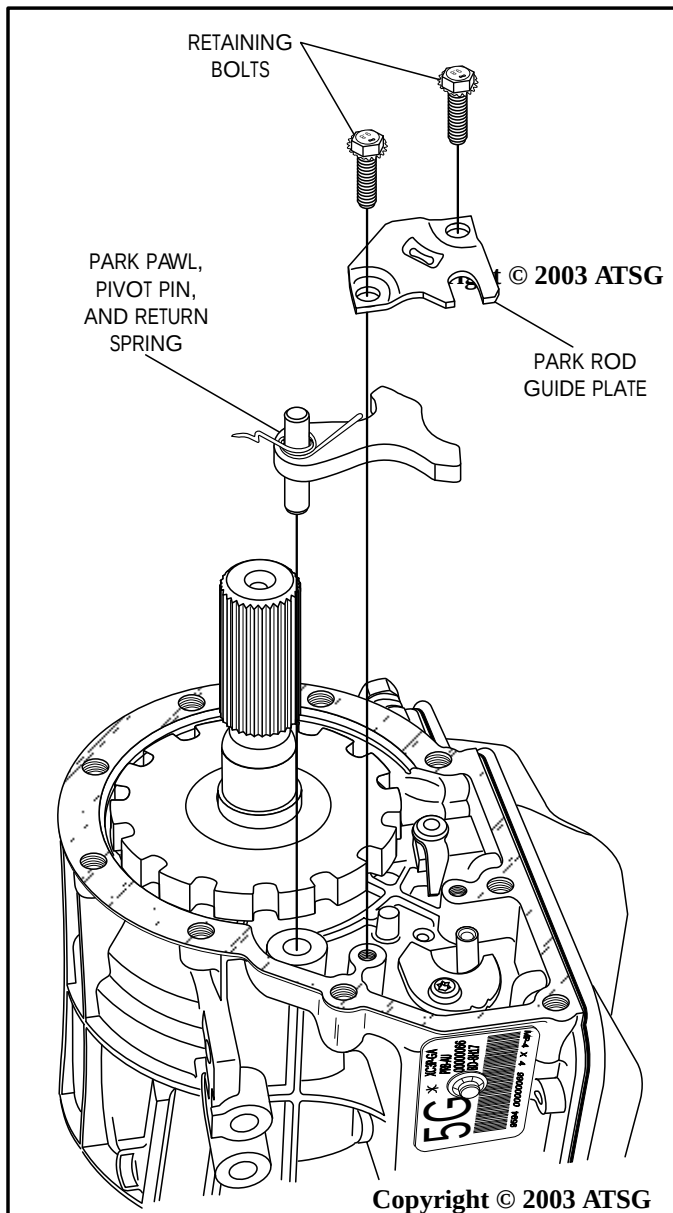
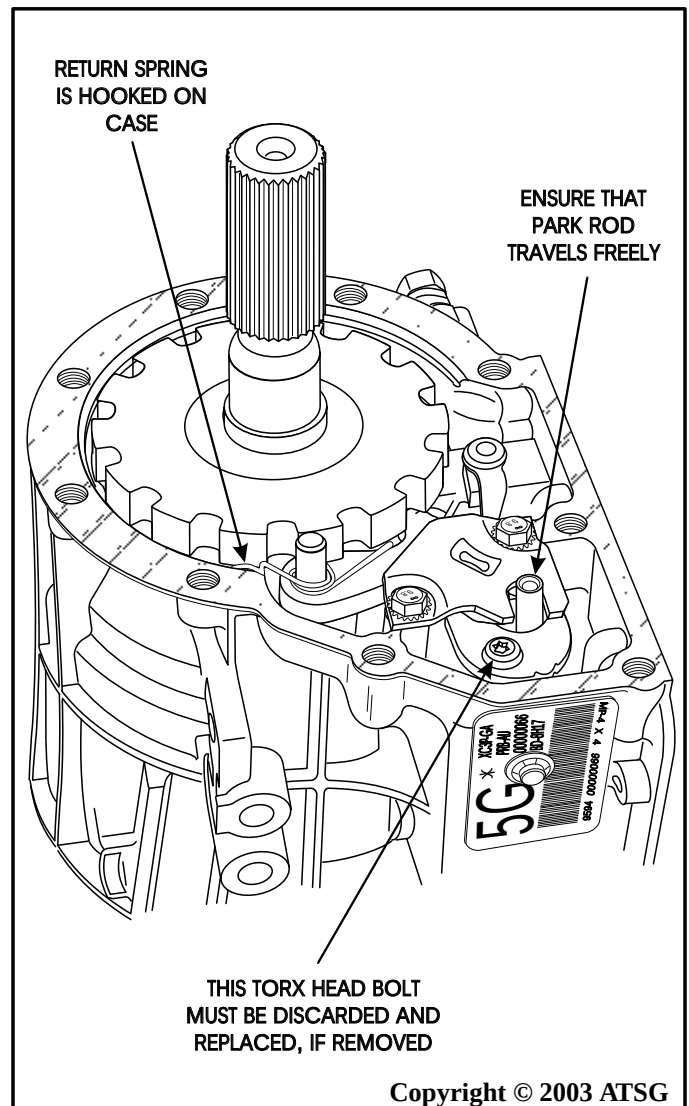

Figure 90
Figure 91
21. Install the parking pawl, pivot pin and return spring, as shown in Figure 90, and ensure that it is hooked properly behind the case, as shown in Figure 91.
22. Install the parking rod guide plate, as shown in Figure 90.
Note: Ensure that park rod operates freely through the guide plate (See Figure 91).
24. The Torx head bolt retaining the park pawl abutment plate, shown in Figure 91, has thread locking compound and should not be removed unless damage is apparent.